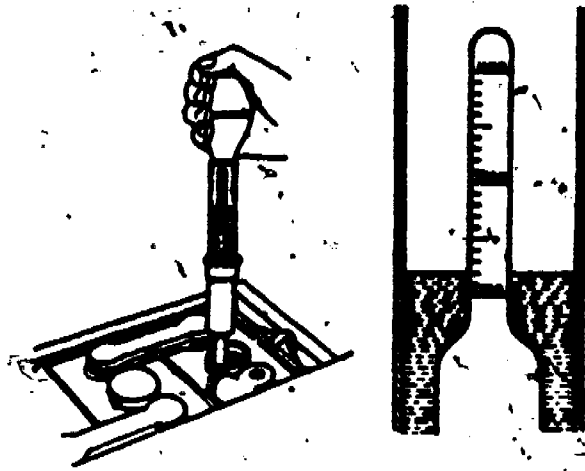

Figure 9. Taking Specific Gravity Reading of a Battery With Battery Hydrometer (A Closeup View of 1,280 Reading is Shown at The Right.)
If electrolyte level is low, add water to the proper level, but do not attempt to test at this time, figure 9.
a. Using battery hydrometer as shown in figure 9, remove sample of electrolyte from cell.